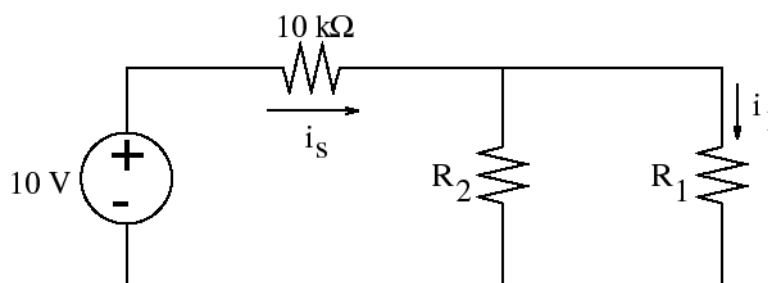

Figure 3: Current Divider Circuit
An ammeter is a device for measuring current. It measures the current flowing from the red to the black probes **within the meter**. The ammeter is placed in series with the circuit element whose current is to be measured. Recall that two elements are in series when they share in the same branch and hence share the same current. Consider the current divider circuit shown in Figure 3.
3. Build the circuit in Figure 3 using the 100 Ω resistors for R_1 and R_2 .
3. Build the circuit in Figure 3 using the $10\ \Omega$ resistors for R_1 and R_2 .
2. The current divider circuit in Figure 3 first with R_1 and R_2 each with a nominal value of $100\ \Omega$ and then with a nominal value of $10\ \Omega$.
2. The voltage source and 10 k Ω resistor in Figure 3 form an approximate current source for small load resistances. If the voltage source and 10 k Ω resistor formed an **ideal** current source, then the current is would be constant, independent of the resistances of R_1 and R_2 , which is certainly not the case. Consider the parallel combination of R_1 and R_2 as a single resistance R_L . If R_L is small compared to 10 k Ω , then the current is will be very nearly 1 mA (Recall that $v_s = 10V$) independent of R_L . Calculate the range of values of R_L such that the current is will deviate from 1 mA by no more than 5%.